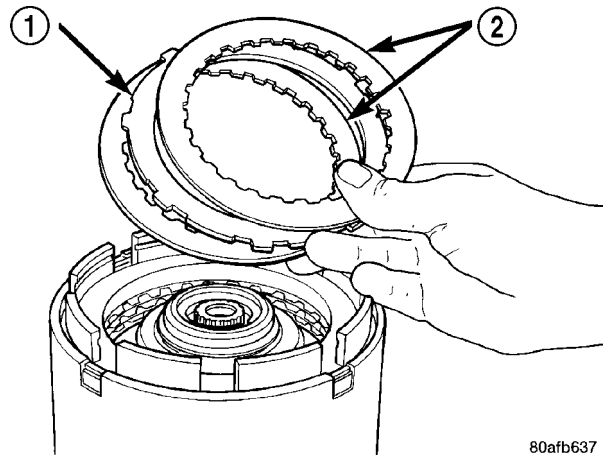

Fig. 242 Install Reverse Clutch Pack
(28) Install reverse clutch pack (two frictions/one steel) (Fig. 242).